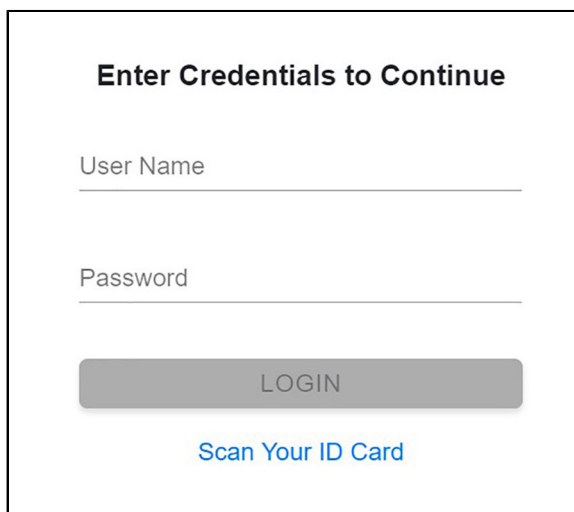

Figure 18. Enter Credentials to Continue Screen
7. Depending on your configuration, the Enter Credentials to Continue screen may appear (see Figure 18). If enabled, you may log in by scanning your institutional ID. Otherwise, manually enter your User Name and Password and touch **LOGIN** to continue.